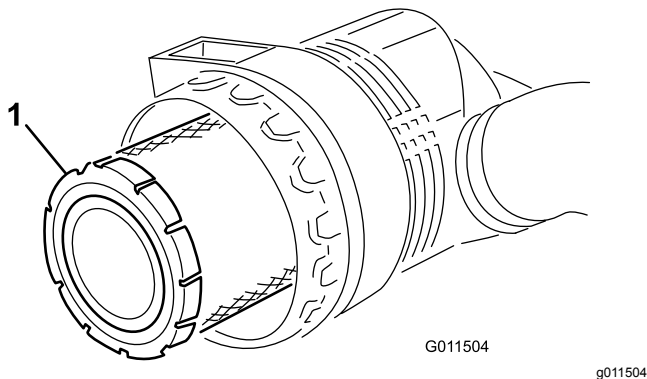

Figure 74
5. Remove and replace the primary filter (Figure 74).